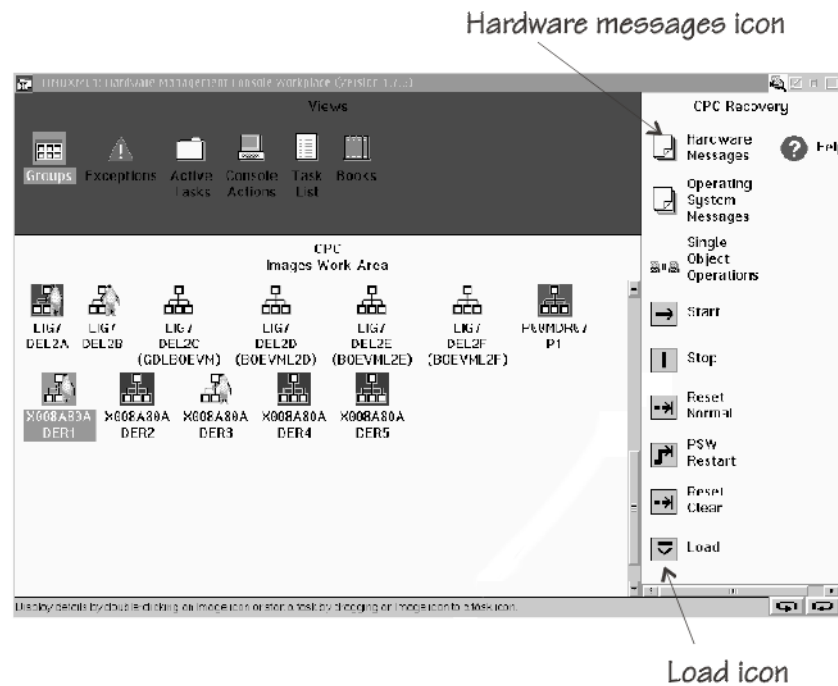

Figure 62. CPC Images Work Area on the HMC
- Click the Images icon in the “Groups Work Area” to display the “CPC Images Work Area” with all defined images (Figure 62).